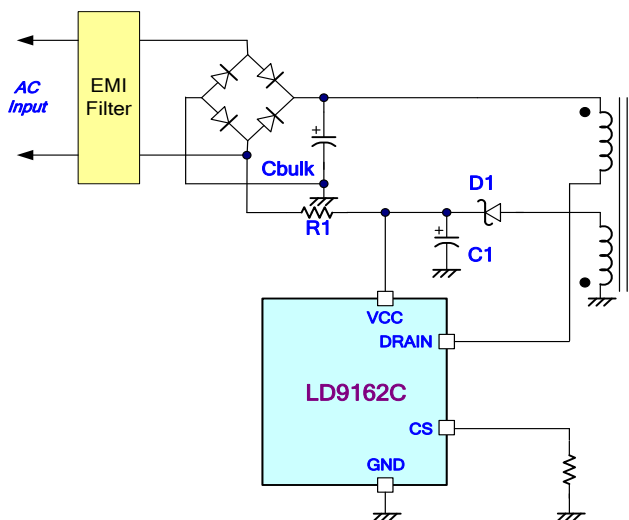

Fig. 11
The typical startup circuit to generate VCC of the LD9162C is shown in Fig. 11. At startup transient, the VCC is below the UVLO(ON) threshold, so LD9162C will not work in this condition. Therefore, the current through R1 will be used to charge the capacitor C1. Until the VCC is fully charged to enable the LD9162C to start switching, the auxiliary winding of the transformer will provide supply current. Lower startup current requirement on the PWM controller will help to increase the value of R1 and then reduce the power consumption on R1. By using CMOS process and some unique circuit design, the LD9162C requires only 1.5µA max to start up. Higher resistance of R1 will spend much more time to start up. The user is recommended to select proper value of R1 and C1 to optimize the power consumption and startup time.